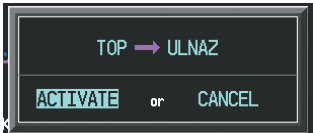

Figure 7-20 Confirm Active Leg
- c) Press the **ACT LEG** Softkey. The confirmation window is now displayed as in Figure 7-20. Note the TOP to ULNAZ leg is actually part of V4.